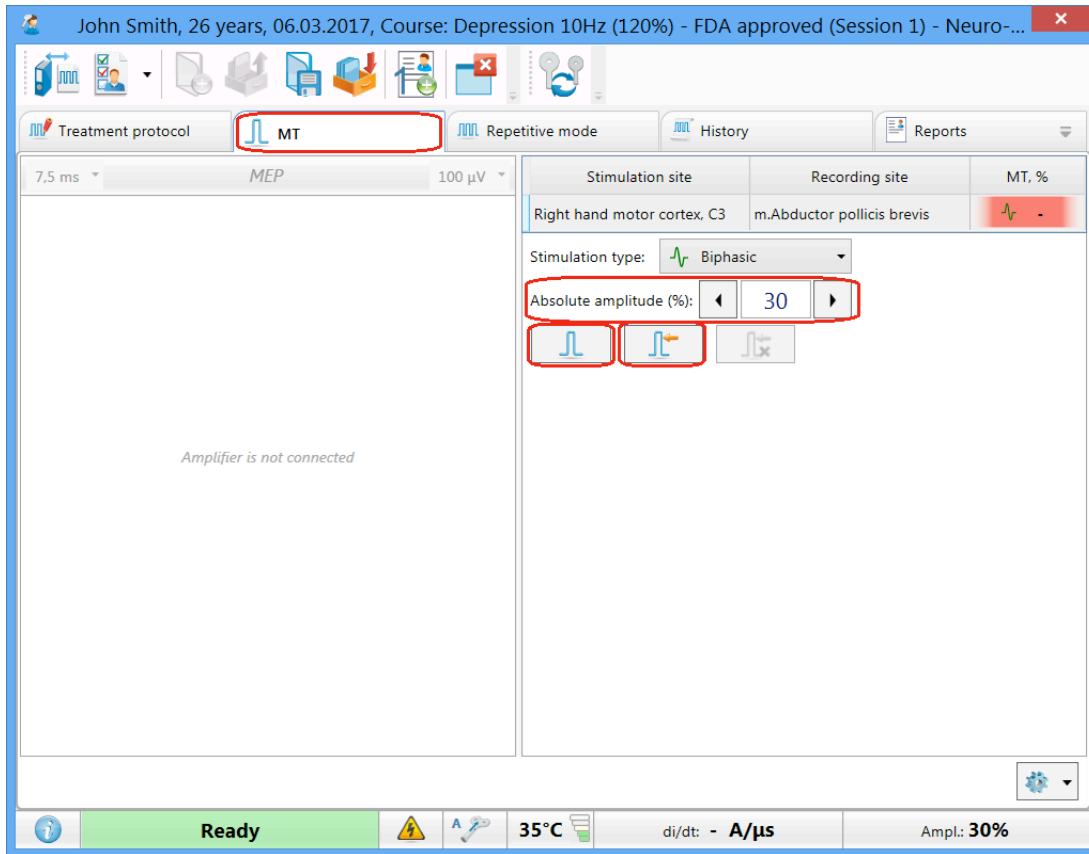

Fig. 28. Single pulse mode (MT) tab.
11. MT is detected in “MT” tab (Fig. 28).